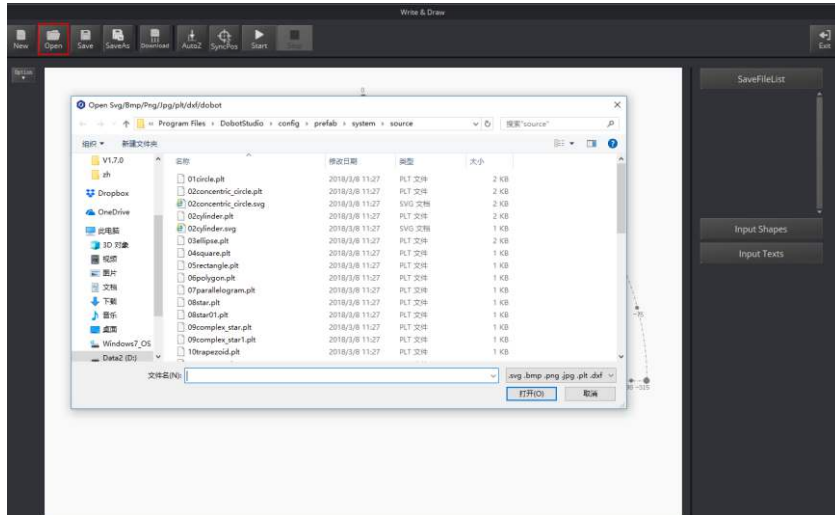

Figure 5.43 Open a PLT or SVG system image file
- Click **Open** on the **Write & Draw** page to import a built-in PLT or SVG image file from the DobotStudio installation directory *InstallationDirectory\DobotStudio\config\prefab\system\source*, as shown in Figure 5.43. You can also import your custom PLT or SVG image file.